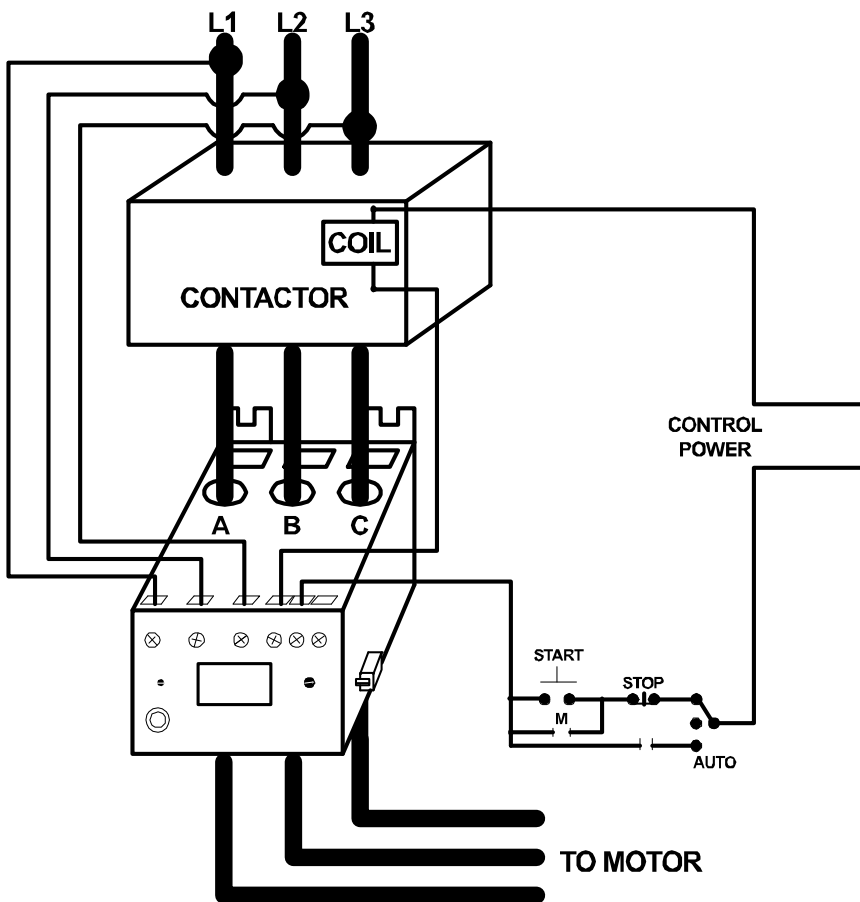

Figure 1: Typical Wiring Diagram
3. a) For amperages from 20-90 amps, insert the motor conductors through the holes marked A, B, and C. Ensure the motor phase conductors correspond with the round hole designations, i.e. the A phase conductor should go through the round hole marked "A". See Figure 1 for a typical wiring diagram.
- Connect the control circuit wires to the appropriate terminals. The relay is designed for fail-safe operation; the NO (normally open) contact should be in series with the coil on the contactor for motor control (see Figure 1). For alarm circuits, the NC (normally closed) contact is in series with the alarm circuitry.